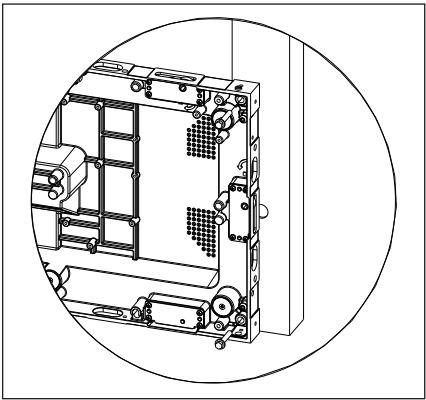

Figure 20: Secure Panel to Tubes
8. Secure the panel to the tubes through all four corner mounting locations. Refer to **Figure 20**.